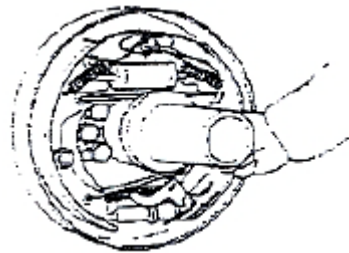

Figure 10
(7) Attached the compression spring to the hand brake lever and attached, as figure10